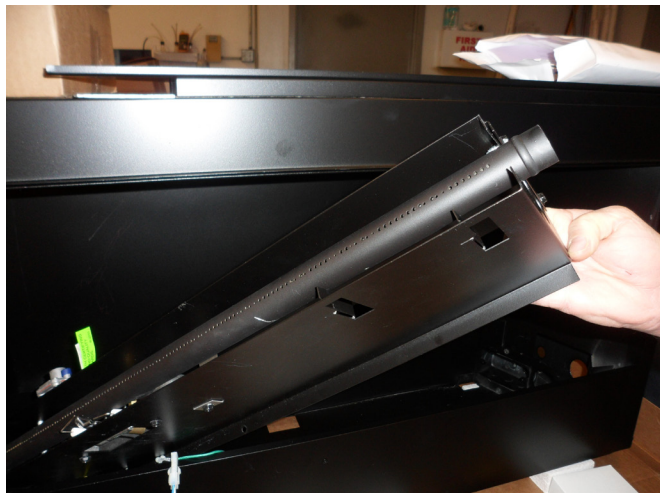

Figure 56
3. Lift the complete burner and valve assembly upward, then turn it sideways in fireplace opening to gain easy access to the junction box. See Figure 56.